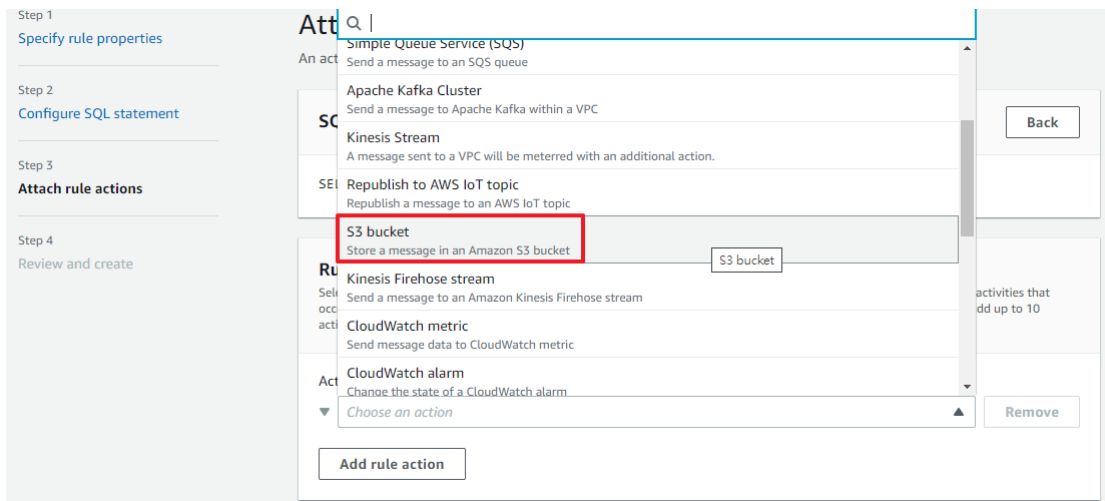

Figure 4-136 Create Rule –Setup Rule Action
3. During step 3 of creating a Rule, you need to choose an action. In this case, you must select the "S3 bucket" option (as shown in Figure 4-136).